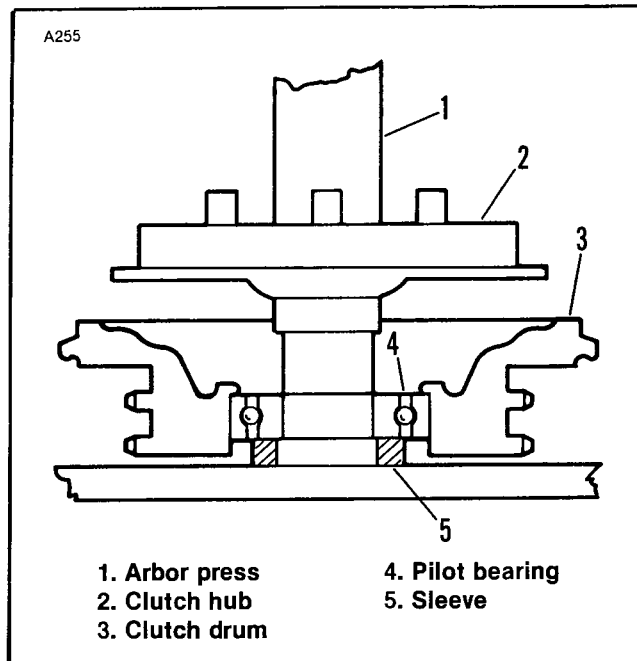

Figure 13. Pressing Hub into Pilot Bearing
3. Place drum (3) on arbor press with inner race supported by a sleeve (5). See Figure 13. Press hub into bearing against hub shoulder.
4. With lock ring pliers, expand external circlip (7) into groove next to pilot bearing.